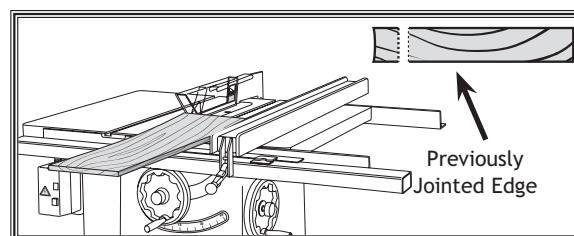

Figure 33. Rip cut on a table saw.
4. **Rip Cut On A Table Saw:** The jointed edge of the workpiece is placed against a table saw fence and the opposite edge cut off (Figure 33).